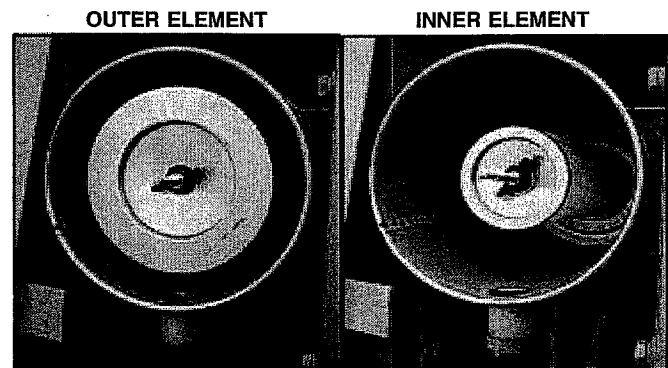

FIGURE 4.26
3. Remove Wing Nut from the Air Cleaner Outer Element and remove element from the housing. See Figure 4.26.
4. Remove the Wing Nut from the Inner Element and remove element from the housing. See Figure 4.26.
7. Reinstall Air Cleaner Elements in reverse order. See Figure 4.26.